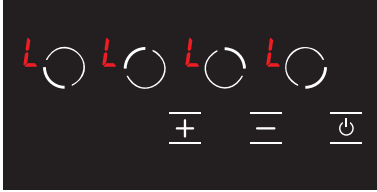

Figure 20
- The **L** icon is displayed on all displays when the stove is on and the child lock is active. (see Fig. 20) The **L** and **H** icons are displayed alternatively if any hob is hot. You may turn the stove on or off with the **0** key only.